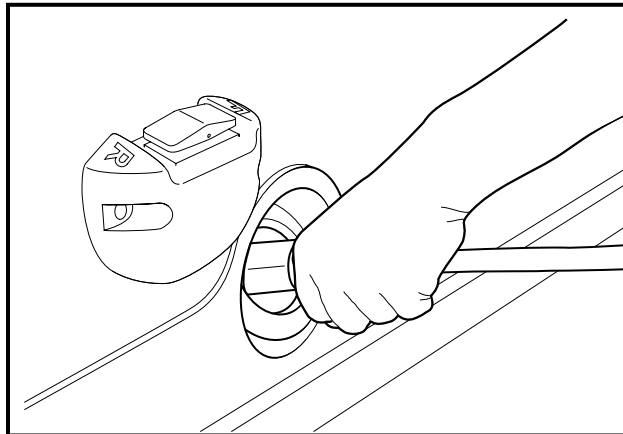

Figure 27 Correct Insertion of Charger DC Plug
- Do not rock or bend the plug. To connect the charger plug to the vehicle receptacle, grasp the plug handle and push the plug straight into the receptacle (Figure 27, Page 42).
Insert the charger DC plug into the vehicle receptacle. The charger will turn on two to ten seconds later (**Figure 27, Page 42**).